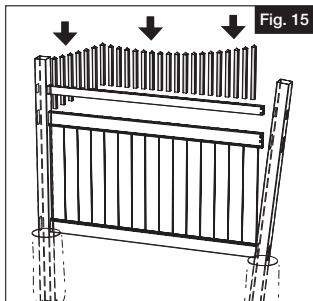

Fig. 15
- b. Insert pickets down through top and middle rail (Fig. 15).